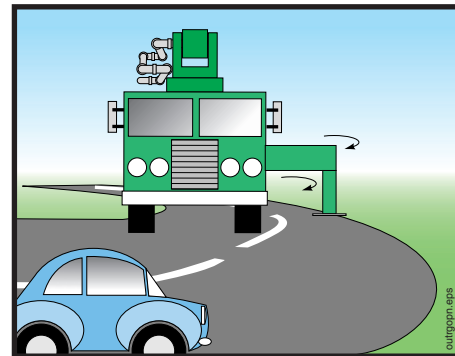

Figure 6
3.14 **⚠ WARNING** Be sure that outriggers are pinned and locked before traveling. If the locking device is damaged or worn, it should be repaired immediately and the unit **must not be driven until the outriggers can be positively locked** against accidental opening (see Figure 6).